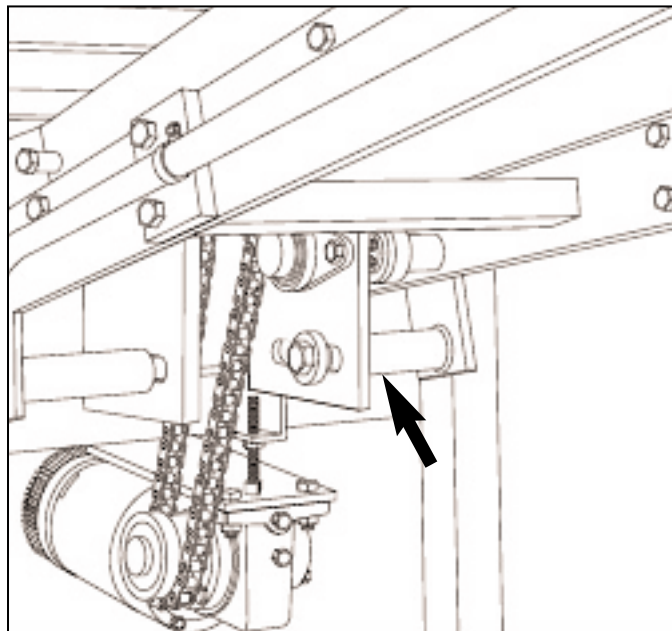

Figure 3.29 CONVEYOR BOLTED TO PALLET TRANSFER.
3.9.5.2 Bolt pallet return section to pallet transfer stand as shown in figure 3.29.